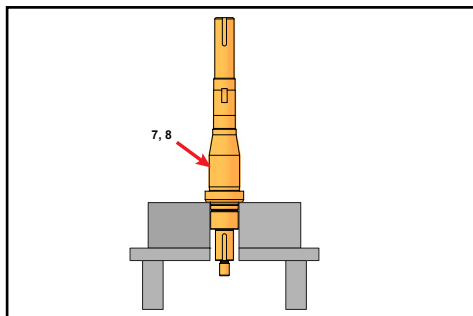

Figure 48 - Grease Shaft
1. Lubricate the front bearing area of the shaft (Figure 48, item 7, 8) with oil or grease. Place it upright in a hydraulic press with the liquid end down.